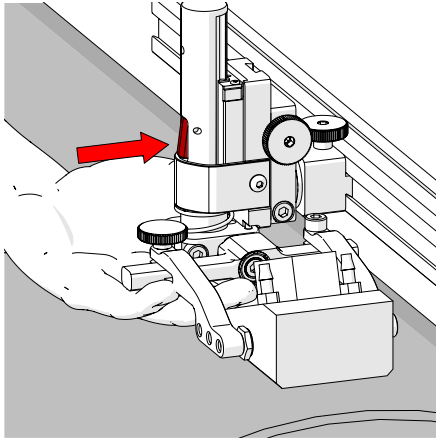
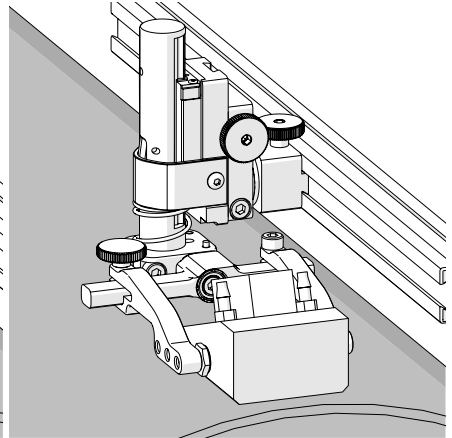

Fig. 97 - Press latch button
Fig. 98 - Lower toward scan surface
4. Lift the yoke slightly and press the latch button (Fig. 97), then slowly lower towards scanning surface to apply spring pressure to the wedge (Fig. 98).